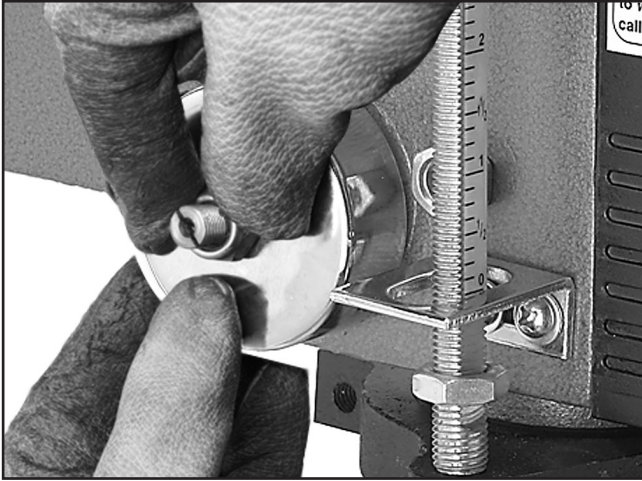

Figure 31. Loosening cover and jam nut.
- While holding the spring lock cover against the side of the head stock so the cover stays splined with the locking lug; loosen the jam nut and cover nut approximately $\frac{1}{4}$ " (see **Figure 31**).